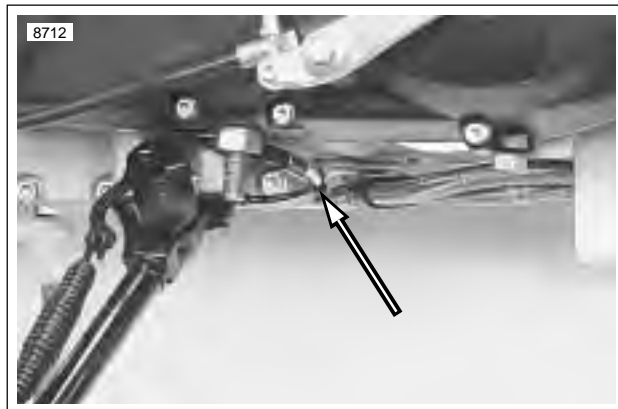

Figure 3-21. Sidestand Switch with Cable Strap
22. See Figure 3-21. Cut cable strap securing harness.